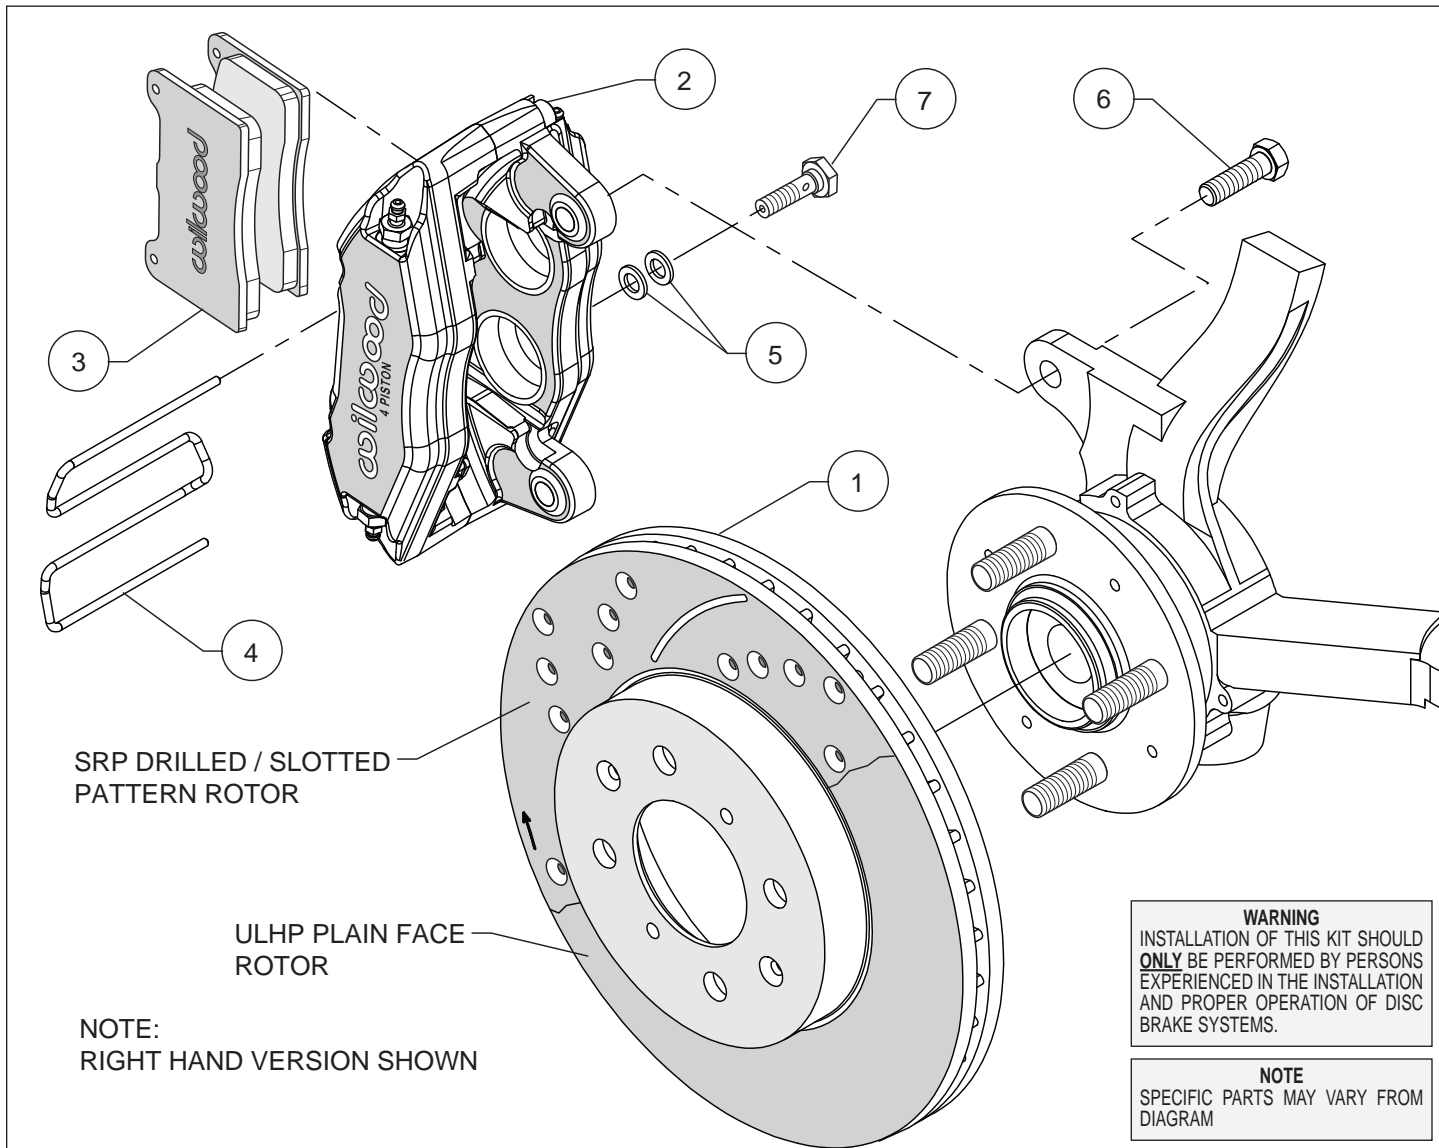

Figure 1. Typical Installation Configuration
**Assembly Instructions** (numbers in parenthesis refer to the parts list and Figure 1 on the preceding page):
• Slide the hat/rotor (1) onto the axle hub. **NOTE:** The hat must fit flush against the axle hub flange or excessive rotor run out may result. Install three lug nuts (finger tight) to keep the hat/rotor in place while continuing with the installation.
• Mount the new Wilwood caliper (2) onto the axle hub caliper mounting bosses using bolts (6) as shown in Figure 1. Apply red *Loctite*® 271 to the bolt threads and torque to 60 ft-lbs.
• Install the disc brake pads (3) into the caliper, with the friction material facing the rotor (1), and secure in place using pad clip retainer (4), Figure 1.